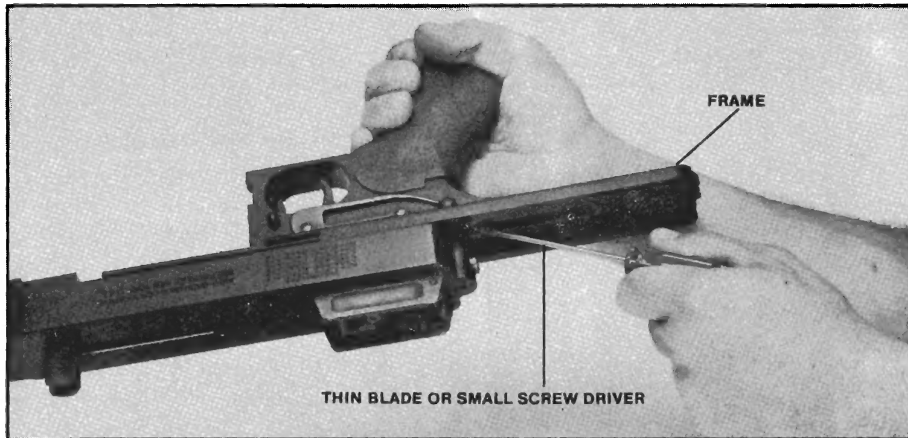

Fig. 2. Depressing frame latch button.
3. With gun upside down, pull frame (27-23) to the rear (new guns may be tight). About half way back you will encounter the frame latch button (27-24). The button can be depressed using a thin blade or small screw driver (see fig. 2). The frame (27-23) may then be removed the rest of the way. Care should be taken not to lose frame latch button (27-24).